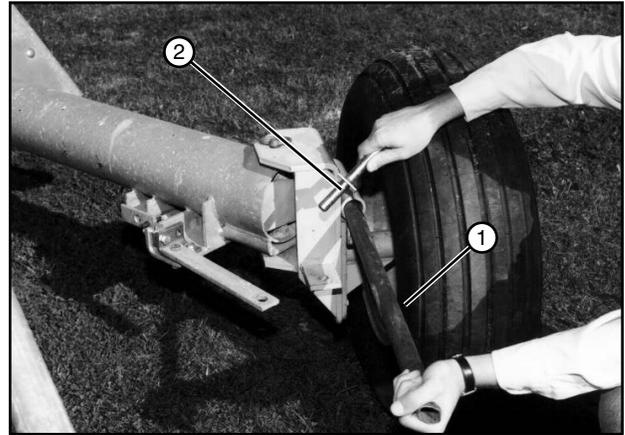

Figure 59-1 1. Bar
11. Remove hardware securing wheel in the tow position. See Figure 59-1.
12. Insert a bar in the swivel tube and turn the wheel to the pivot swivel position. See Figure 59-1.